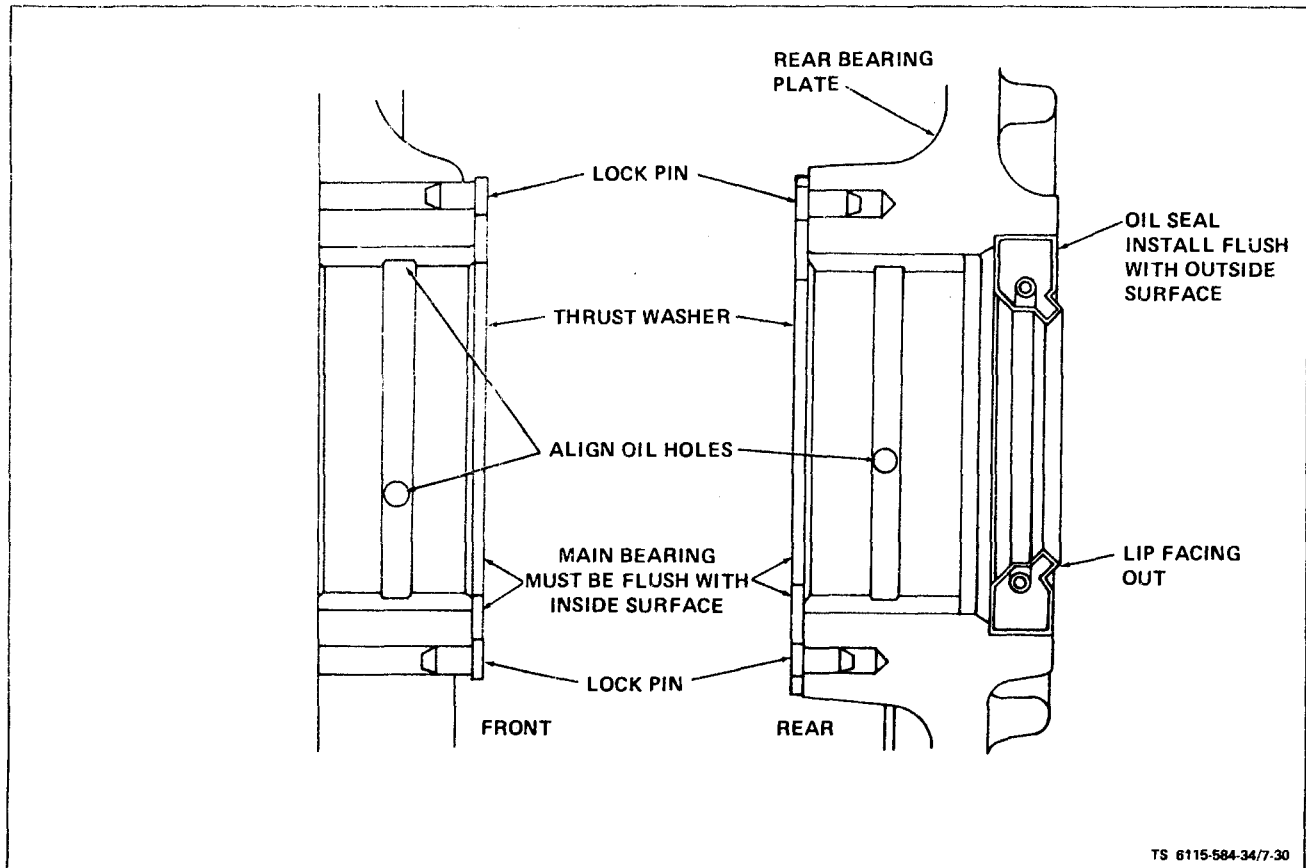

Figure 7-30. Crankshaft Bearing Installation
(1) Heat cylinder block (27, figure 7-15) and bearing plate (18) at 325° F (163° C) in an oven 30 minutes and press front and rear main bearings (21) into place, aligning bearing housing oil holes (see figure 7-30).
(2) Install thrust washers (24, figure 7-15) on locking pins (see figure 7-30).